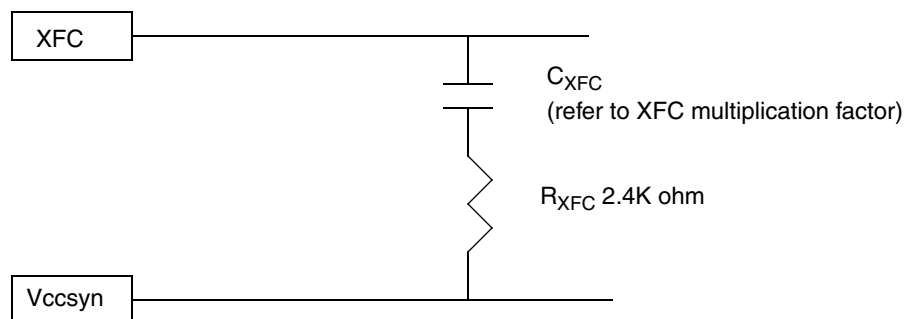

Figure 11. External PLL filter
On systems where excessive PLL jitter causes AC timing violations, a 2.4Kohm resistor (R_{XFC}) can be added in series with the specified (C_{XFC}) capacitor. As discussed in Section 3.1, "PLL Transfer Function," this resistor/capacitor (RC) filter acts as a noise rejection circuit, thus allowing for fast clock recovery for a wider frequency bandwidth and less susceptibility to phase noise or jitter. For the best result, the XFC capacitor should be placed as close as possible to the XFC pin on the MPC8260. The 2.4Kohm R_{XFC} value stays constant for all multiplication factors. For selecting C_{XFC} capacitor values, refer to the *MPC8260 PowerQUICC II™ Family Reference Manual*. Figure 11 shows the physical connection of the XFC RC filter circuit.